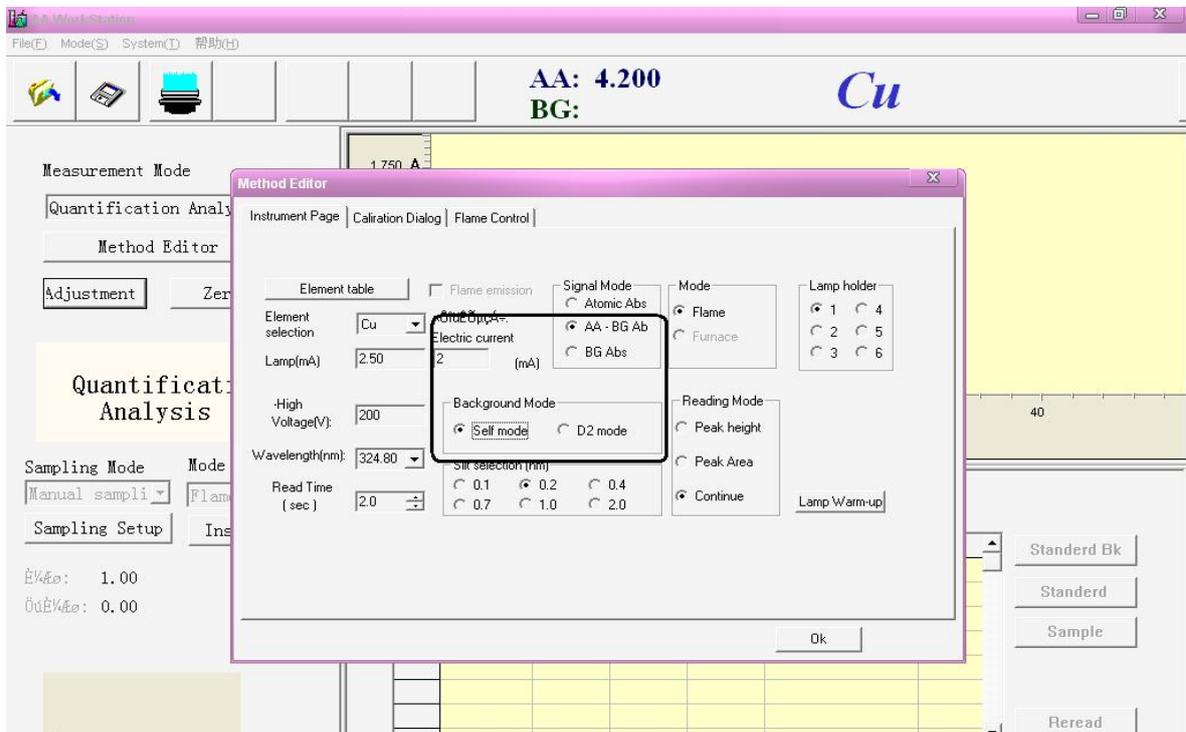

Figure 4-23
2) Select the "Self mode" on "Background Mode", the text box of "D2 lamp electric current" change into "Self electric current", input the current value into the text box (Figure 4-23). The value is between 0-14mA